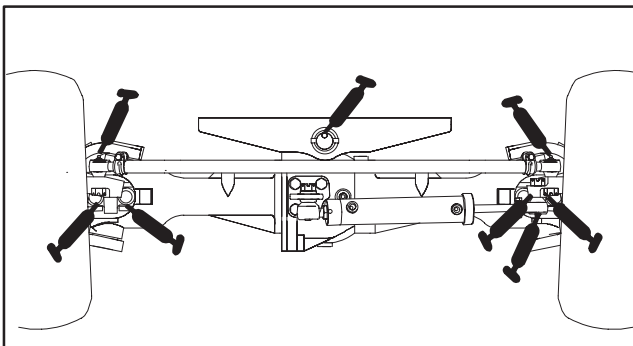
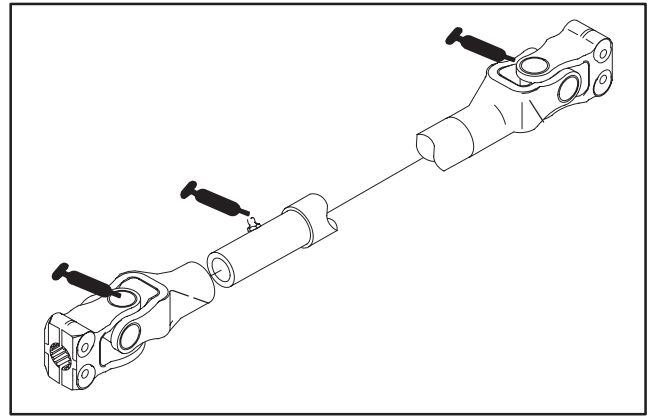

Figure 16
Figure 17
4 Wheel Drive Models only—Steering cylinder ball joints, Rear axle tie rod (2), Rear axle pivot (1), Double Cardan joints (2 ea. side) (Fig. 16) and Rear Drive Shaft (3) (Fig.17)